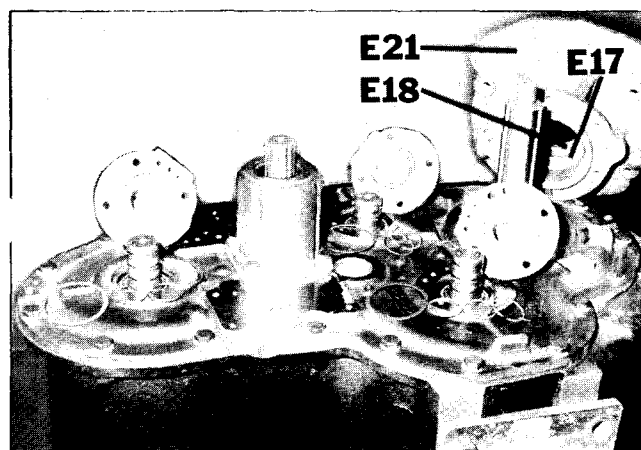

Figure 62
5. Install O ring (E-28) with spacer (E-4) with taped edge inward on shaft. (Figure 62).